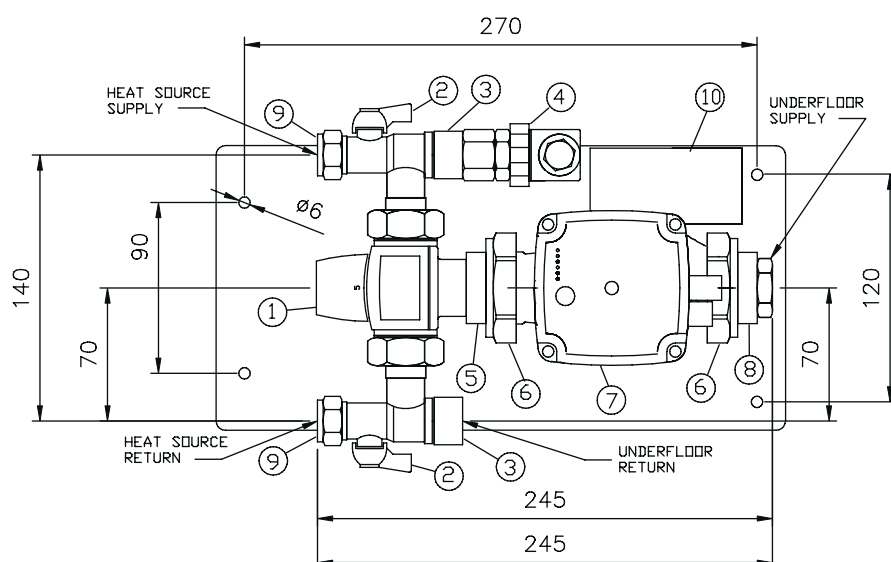

Fig.1 Overall Connections and Dimensions
4.4 The pump mixer can be attached to the heating system. Using the dimensions shown in Fig. 1, ensure that there is enough available space for installation and maintenance at the intended position.